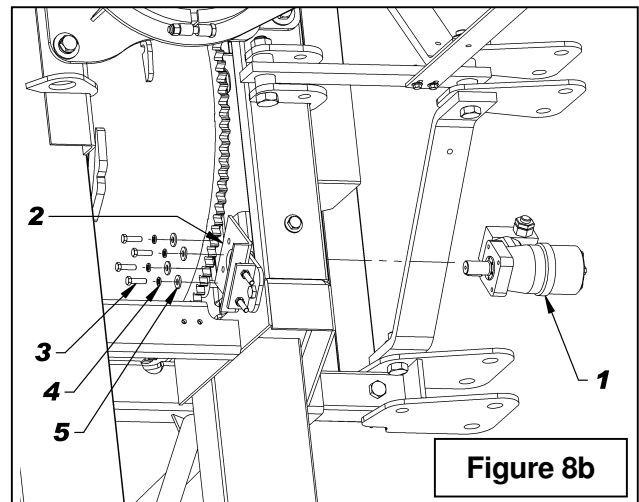
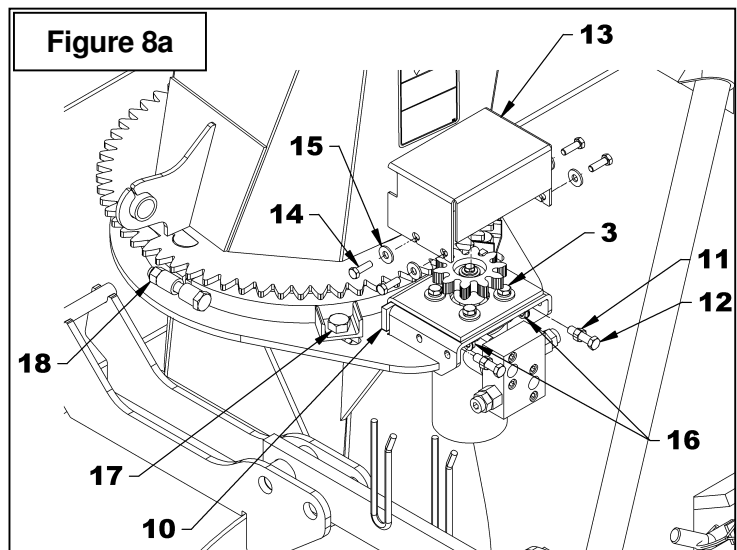

Figure 8b
Figure 8a
4. **Figure 8a:** Adjust the distance between the chute gear and the motor gear according to the following step:
- A. Slightly unscrew the two bolts (item 17) that hold the retaining plate.
- B. Screw the two nuts (item 18) simultaneously until the distance between the retaining plates and the chute base is leveled.
- C. Retighten the bolts (item 17) according to the "**Torque Specification Table**". located at the end of the manual.
- D. Adjust the gears to a distance between 1/32" and 1/16" by screwing the two bolts (item 12). Secure with the nuts (item 11) moving them against the anchoring flat bar (item 10). Tighten the four bolts (item 3) at 30 lbs-ft (41 N-M).
5. **Figure 8b:** Remove the gear and one of the four 3/8"NC x 1 1/4" bolts (item 3) holding the motor, apply Loctite® 243 on the bolt threads and tighten at 33 ft-lb (45 N-M). Repeat the same procedure with the other three bolts.
6. **Figure 8a:** Reinstall the gear and the cover (item 13) with four 5/16" x 1" bolts (item 14), 3/8" flat washers (item 15) on the outside and 5/16" serrated flange nuts (item 16) on the inside. Tighten according to the "**Torque Specification Table**".